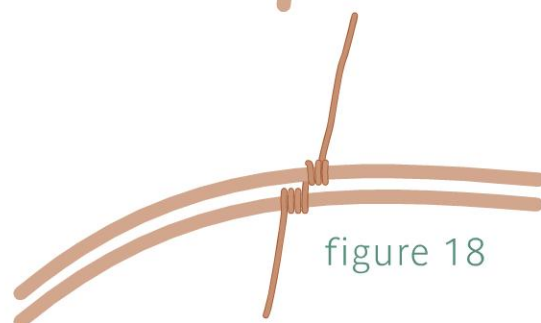

figure 18
- 5 Hold the second piece of 16-gauge wire (Frame Wire 2) parallel to Frame Wire 1. Bring the weaving wire underneath and over Frame Wire 2; coil three times (Figure 18).